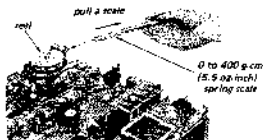

Fig. 3-12. FWD and REV back tension torque adjustment
2. Measure the back tensions by pulling the 0 to 400 g (14 oz) spring scale at approximately 9.5 cm/s (3-3/4 ips) speed in FWD [REV] mode. See Fig. 3-12. It should be 200 to 240 g·cm (2.78 to 3.32 in. inch).
2. Measure the back tension by pulling the 0 to 400 g (14 oz) spring scale at approximately 9.5 cm/s (3-3/4 ips) speed in FF [REW] mode. See Fig. 3-12. It should be 60 to 80 g·cm (0.83 to 1.1 oz·inch).